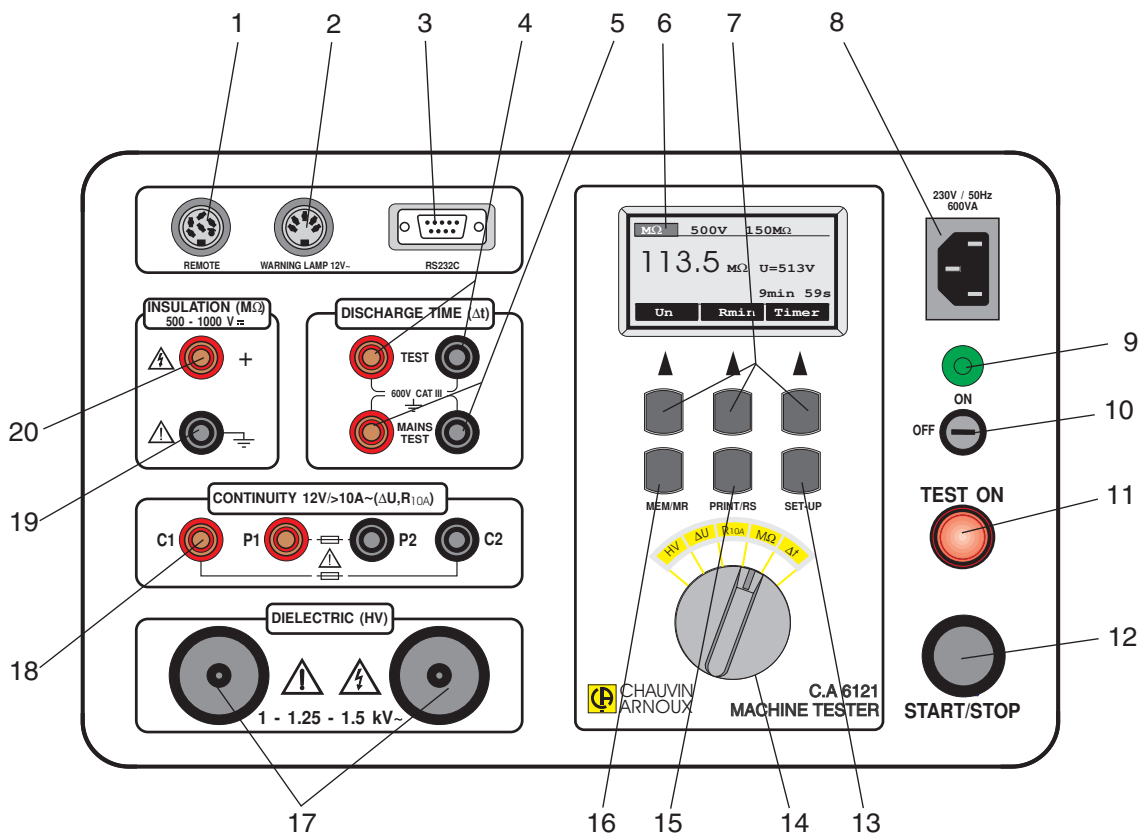

Fig.1. Presentation of the front panel
Switch off the instrument immediately if the red safety light (pos.11, fig 1.) does not light after switching on the HT generator and have the instrument repaired.